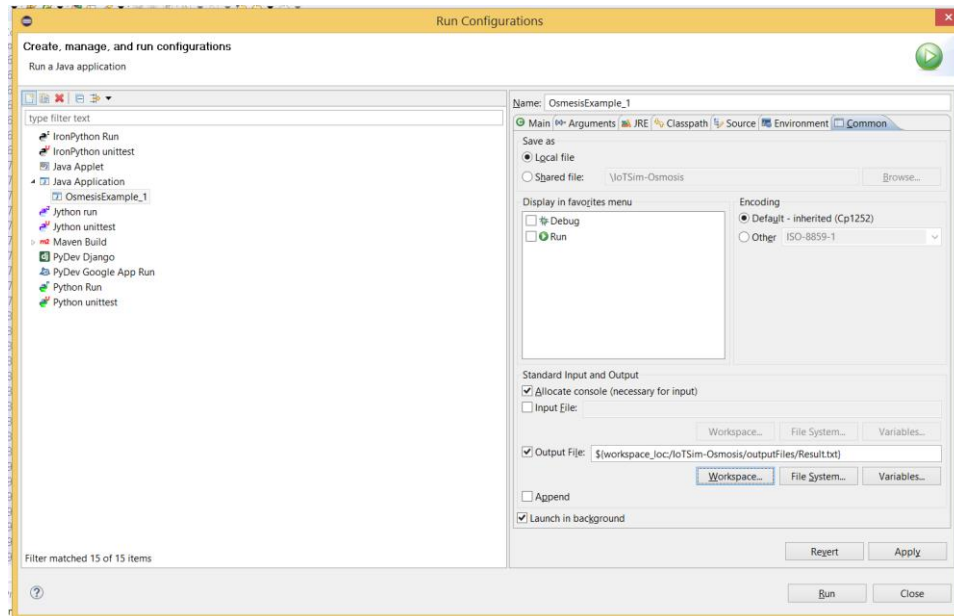

Figure 4.6
**Step 2:** Click on Common -> check mark Output File -> click workspace -> select IoTSim-Osmosis folder -> select outFiles folder -> select result.txt -> click Ok -> click Run (see Figure 4.6). This step will run the first example and store all the outputs on the result.txt file.